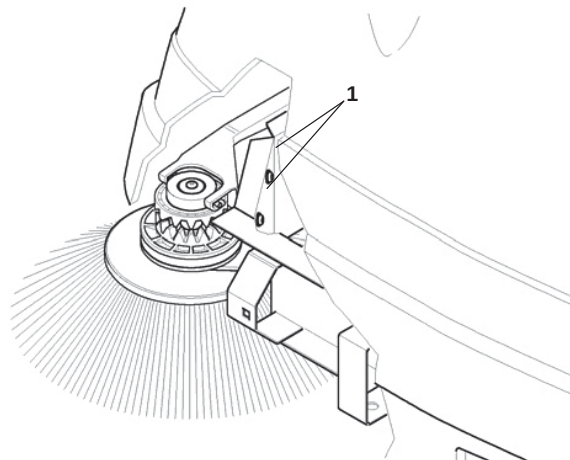

Fig. 6/A
The side brush is adjusted by loosening the screws pos. 1 Fig. 6/A and manually positioning the brush at the desired height along the slots. Once having determined the correct height, tighten the two screws.